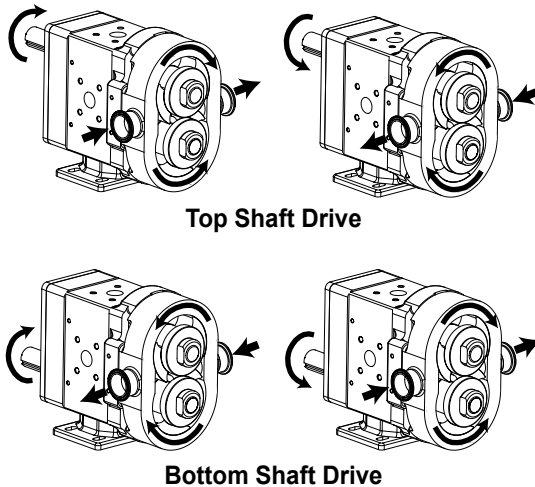

FIGURE 5
10. Jog motor and observe motor coupling to make sure pump will turn in the right direction. See Figure 5.